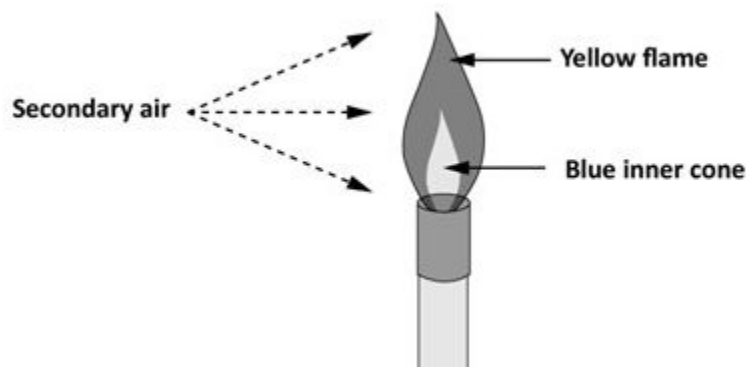

Figure 1 Luminous flame
- Figure 1 “Atmospheric burner” by Camosun College is licensed under a CC BY 4.0 licence.
A luminous flame burner does not premix gas and air before ignition and consequently the flame depends upon the air around the flame (secondary air) for combustion. When the gas is heated inside the flame without air, the hydrogen and carbon particles separate. The flame has a small blue inner cone created by the hydrogen burning at a greater speed and a lower temperature than does carbon. The slower burning carbon, because of their higher temperature, produce an incandescent light creating a large glowing yellow flame (Figure 1). This type of burner is used in decorative appliances and appliances that are designed to give off light.